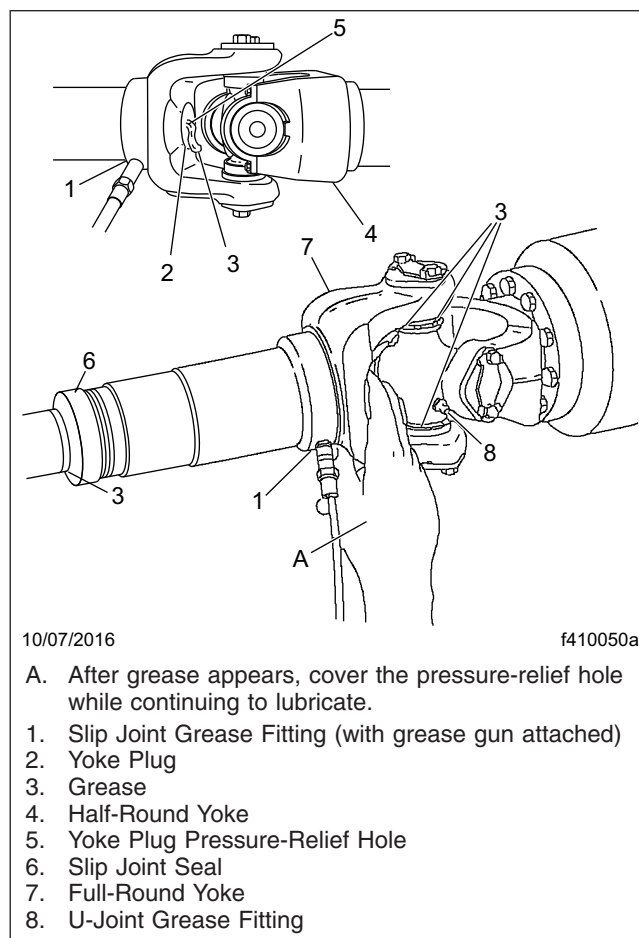

Fig. 6, Slip Joint and U-Joint Lubrication
9. For driveshafts with slip joints, check to be sure the yoke plug is not loose or missing. See **Fig. 6**. Repair or replace the yoke plug as needed. If the yoke plug is missing, the splined shaft may be hitting the plug and knocking it out; contact your Regional Service Office for assistance in determining the correct driveshaft length.
2. Wipe all old grease and dirt from each U-joint grease fitting. See **Fig. 6**.
1. If equipped with a grease fitting, wipe all old grease and dirt from the slip joint grease fitting. See **Fig. 6**.
2. Use a hand-type grease gun or a high-pressure gun with a low-pressure adapter, to lubricate the slip joint. Add multipurpose chassis grease (lithium 12-hydroxy stearate, NLGI Grade 2, with EP additives) until it appears at the pressure-relief hole in the yoke plug. Then cover the relief hole with your finger, while continuing to apply gun pressure until new grease appears at the slip joint seal. See **Fig. 6**. This ensures complete lubrication of the splines.